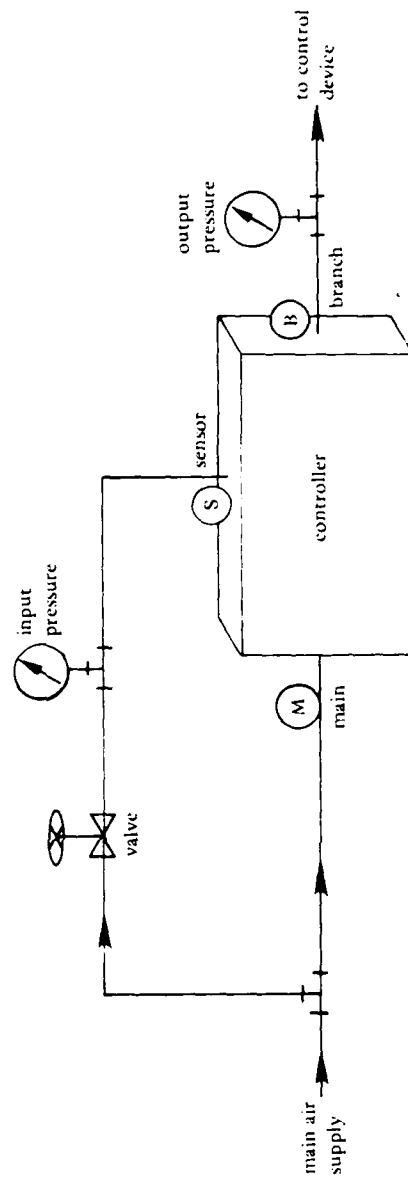

Figure 5. Illustration of test apparatus.
- (1) Disconnect the sensor (or input) line from the controller.
- (2) Connect a calibrated pneumatic gauge to the input port of the controller with a "T" connection (see Figure 5).
- (3) Connect an adjustable restriction, such as a needle valve, to the "T" connection.
- (4) Connect the free end of the adjustable restriction to the main air supply
- (5) Connect a calibrated pneumatic gauge to the output port of the controller.
- (6) Adjust the restriction until the input pressure gauge reads the value of the pressure corresponding to the desired setpoint. You will need data on sensor span and pressure range for this step.
- (7) Turn the setpoint adjustment screw until the output pressure equals the mid-point pressure value (typically 8 psi).
- (8) Adjust the setpoint scale to read the selected value of setpoint.
- (1) Disconnect both the primary and secondary sensors from the controller and install calibrated pressure gauges and adjustable restrictions in their place following the example of Figure 5.
- (2) Connect the open ends of the adjustable restrictions to the main air supply.
- (3) Connect a calibrated gauge to the output port.
- (4) Select one end of the range of primary sensor, say V_{1A} , and adjust the restriction until the gauge on the primary sensor port reads the value of V_{1A} .
- (5) Adjust the restriction on the second sensor port until the gauge for the secondary sensor reads the value of V_{2A} .
- (6) Check to see that the settings for authority and proportional band are as specified. Adjust these values to specification if necessary.
- (7) Turn the setpoint adjustment screw until the output pressure is at the desired extreme value (e.g., 3 or 13 psi).
- (8) Adjust the setpoint scale to read the calculated value of setpoint.
(9) Adjust the restrictions on the sensor ports so that the input gauges read the values of V_{1B} and V_{2B} . The output pressure should now read the other extreme value (e.g., 13 or 3 psi).
(10) After the HVAC system returns to equilibrium, recheck the calibration.